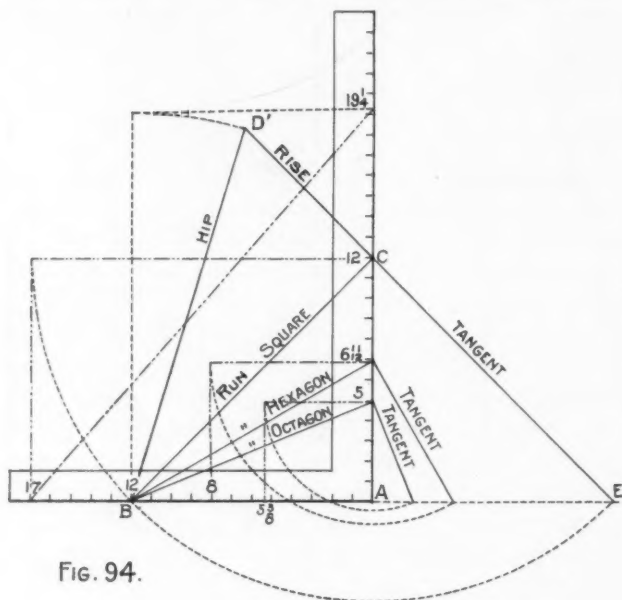

Fig. 94.
**I**N our last illustration we showed the seat and plumb cuts of the hip for polygonal sided building from four to ten sides. We will now, in Fig. 94, show how the figures are obtained on the steel square for the side cuts of the hip, but in this we will only show those most commonly used, namely, the square,